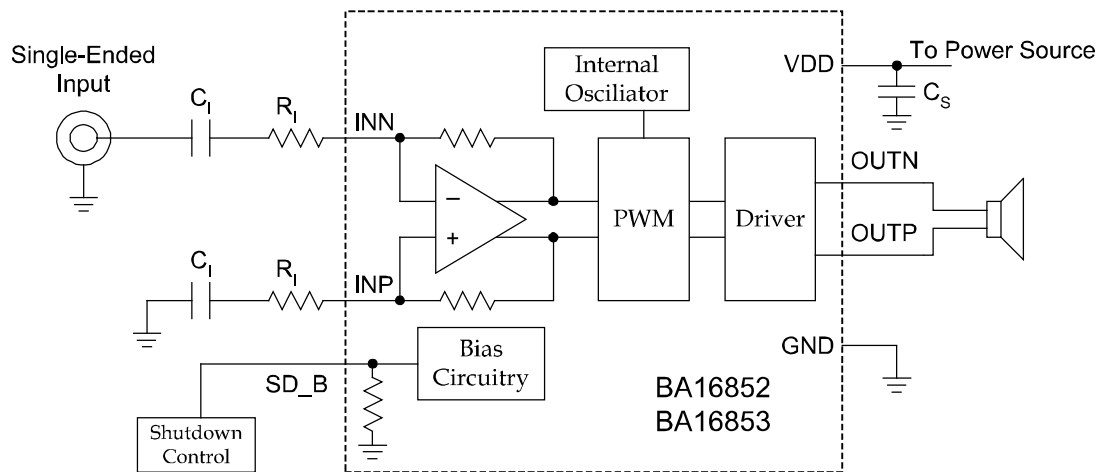

Figure 30. Single-Ended Input Configuration
The BA16852 / BA16853 can also be used with single-ended sources, but input capacitors will be needed to block any DC at the input terminals. The typical single-ended application configuration shows in Figure 30. The equation of gain is Equation (1) and the equation of frequency response is Equation (2), hold for the single-ended configuration as shown in Figure 30.